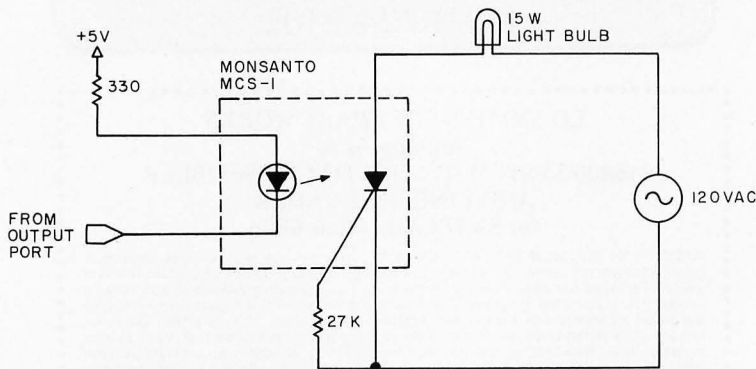
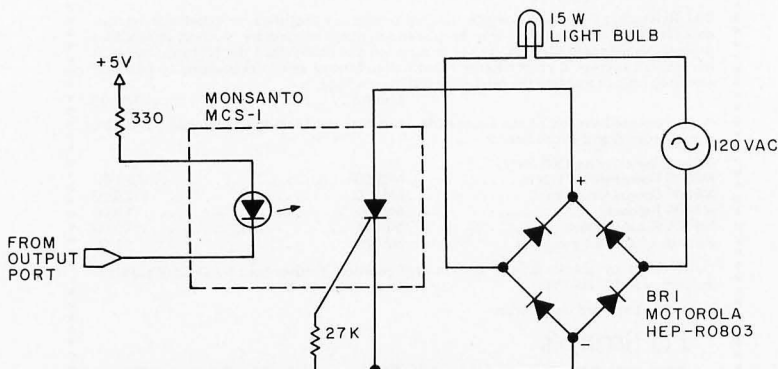

Figure 1: Simple half wave control of AC operated devices using an SCR (silicon controlled rectifier) optocoupler.
Figure 2: Full wave control of AC operated devices using an SCR optocoupler.
Figure 1 shows one such real world application, an SCR (silicon controlled rectifier) optocoupler used to control a 117 VAC line operated device with microcomputer output logic voltages. This circuit will certainly work, but the light bulb load will light only to half brilliance because the SCR conducts only on the positive half cycle of the AC line voltage. One way of getting around this is to modify the circuit, as shown in figure 2, by using a diode bridge in conjunction with the SCR photocoupler. This is an old trick developed to allow SCRs to be used for full-wave control. It came into use before the introduction of the Triac.
We next consider the DC side of things. Where is DC used for these types of applications? The automobile is one answer. The auto industry hopes to use microprocessors, but must operate them from +12 VDC for reasons of practicality. The SCR optocoupler in figure 1 can not be used for DC control, unless one wishes the DC being controlled to latch "on." That is, once the controlling diode turns the photo SCR "on" (with a DC supply of the proper polarity), the SCR will stay on no matter what the control current does. In order to control DC, it is a better plan to use a more conventional optocoupler, ie: one that has a phototransistor as the output device. Such optocouplers are widely available from most of the semiconductor producers. Among the producers of optocouplers are Fairchild, Hewlett-Packard, Litronix, Monsanto, Motorola, and Texas Instruments.
If you are unfamiliar with the IBM floppy disk format it is composed of 77 tracks numbered 0 through 76. Each track is divided into 26 sectors numbered 1 thru 26. Each sector consists of four fields as shown in figure 1.
Power requirements for the disk and controller are shown in table 1. A commercial power supply can be purchased or you can build your own supply. Figure 2 is a schematic of a power supply which supplies the needed voltages, offers voltage adjustment on the +24 and +5 supplies and has both adjustable current limiting and over-voltage protection on the 5 V supply.
*Table 1: Disk interface DC power requirements. The power supply of figure 2 was designed and built to meet these requirements; for those desiring to omit this detail, Sykes makes available a power supply module for the controller and drive.*
*Figure 1: Sector layout. The sector layout is fixed by the design of the controller. Each sector has 128 bytes of data, and an identification number which contains track and sector information in the "soft" format for floppies.*